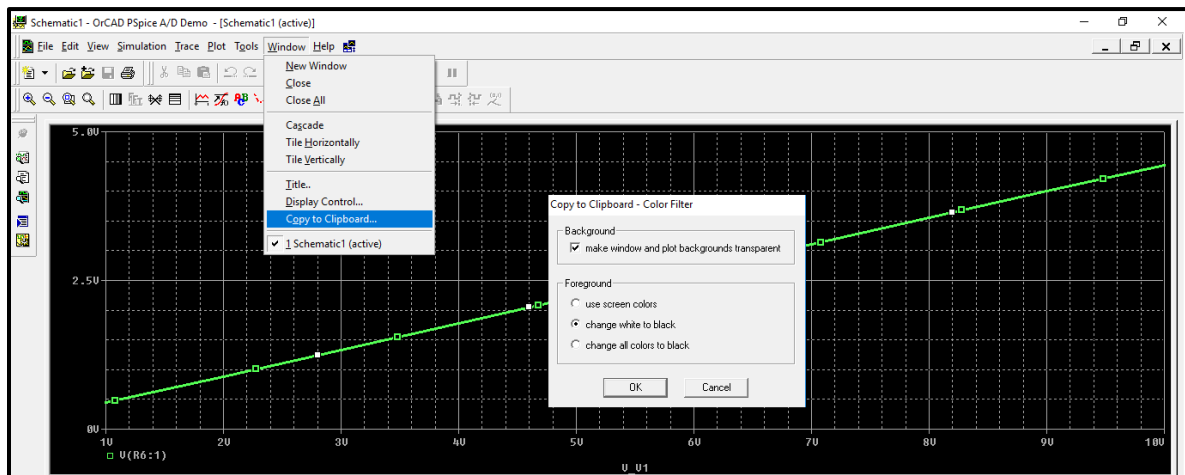

Figure.19
- To copy the output curve to a word document,** go to the simulation output window and click on window then select “copy to clipboard”, then select ok as shown in figure.19.